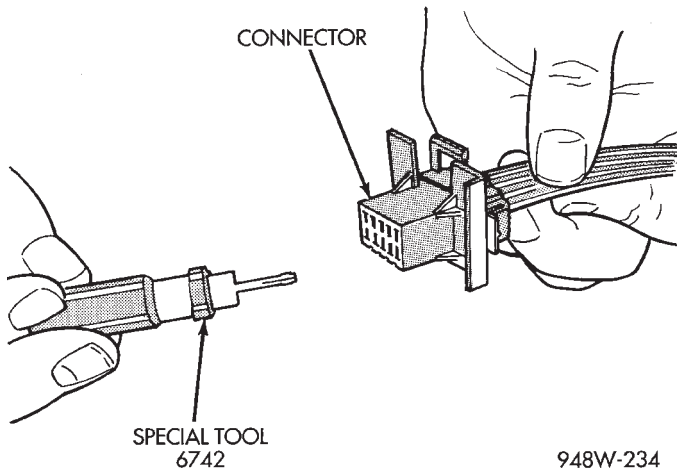

Fig. 10 Molex Connector Repair
- (2) Disconnect the connector from its mating half/component.
- (3) Insert the terminal releasing special tool 6742 into the terminal end of the connector (Fig. 10).